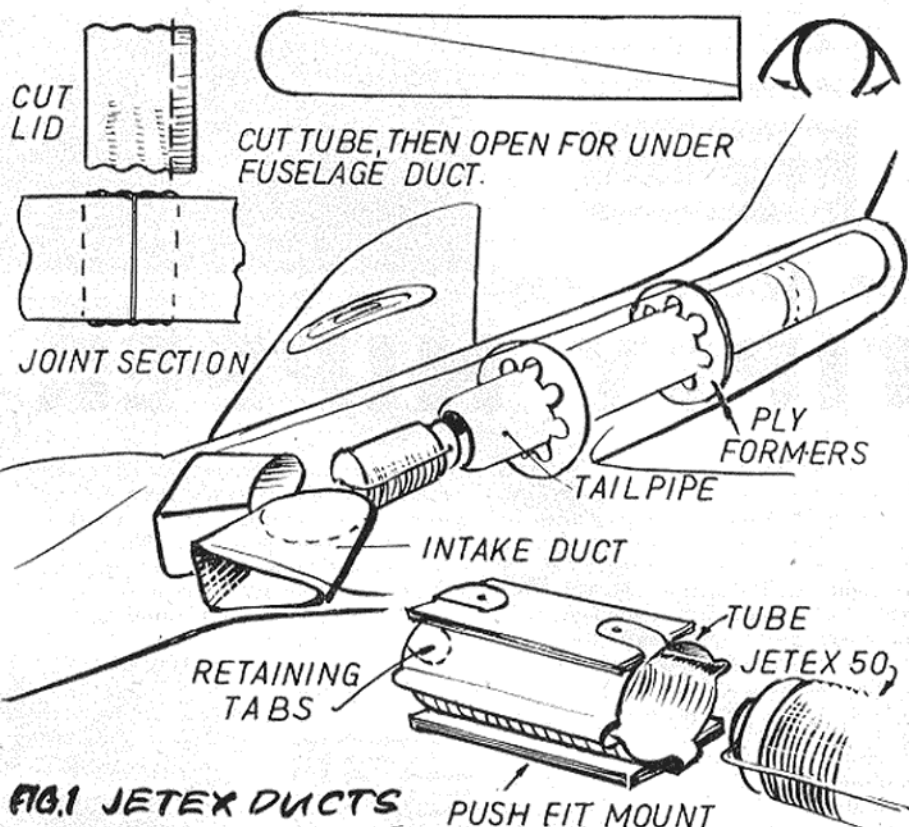

FIG.1 JETEX DUCTS
2. For Jetex fans the problems of fire-proof ducts and tailpipes is solved. Jet-pipes can be made as long as required by joining with part of the cap. (Fig. 1.) Intake ducts can be made to provide clean airflow to cool the motors. Incidentally, the standard diameter containers provide excellent push-in mountings for the Jetex 50.